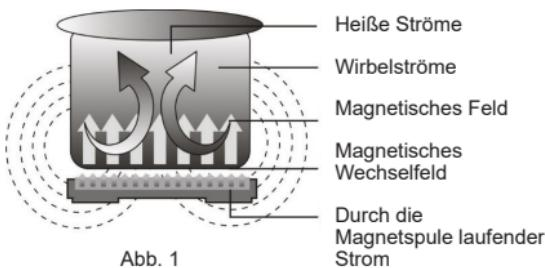

Abb. 2
- Use only compatible cookware (Fig. 2).
- Connect the power plug (3) to the mains socket, you will hear a sound signal, and the cooker will switch to the standby mode.
- To switch the cooker on, press the button (10) «On/Off» , the button (10) «On/Off»  indicator will light up and the display (8) will show flashing symbols «----».
- Press the power selection button (9) «Power» , the indicator will light up, the display (8) will show the digital symbols of default power «1400», by pressing the buttons (7) «-/+» you can set the power of the hob (2) «200-500-1000-1200-1400-1600-1800-2000».
- Press the frying mode button (6) «Frying» , the indicator will light up, the display (8) will show the default temperature «270». By pressing the buttons (7) «-/+» you can set the hob (2) temperature «80-100-130-160-180-210-240-270».
- Press the timer button (5) «Timer» , the indicator will light up, the display (8) will show the digital symbols «0:00», by pressing the buttons (7) «-/+» you can set the timer operation time from «0:00 till 3:00» hours.
- To switch the cooker off, press again the button (10) «On/Off» , the button (10) «On/Off»  indicator will go out. Wait until the cooling fan stops rotating and disconnect the power plug (3) from the mains socket.
- after switching the electric cooker off, the cooling fan will continue to run for some time, do not disconnect the power plug (3) from the mains after the cooling fan has stopped spinning.